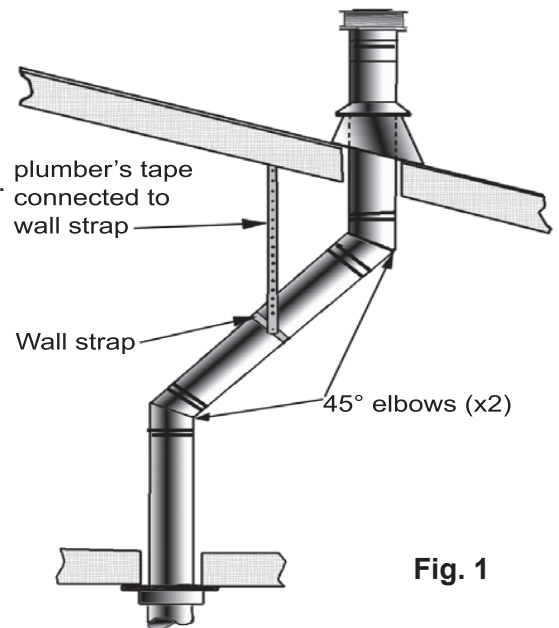

Fig. 1
- If an offset is necessary in the attic to avoid obstructions, it is important to support the vent pipe every 3 ft (914 mm) to avoid excessive stress and possible separation on the elbows. Use wall straps as needed (**Fig. 1**).